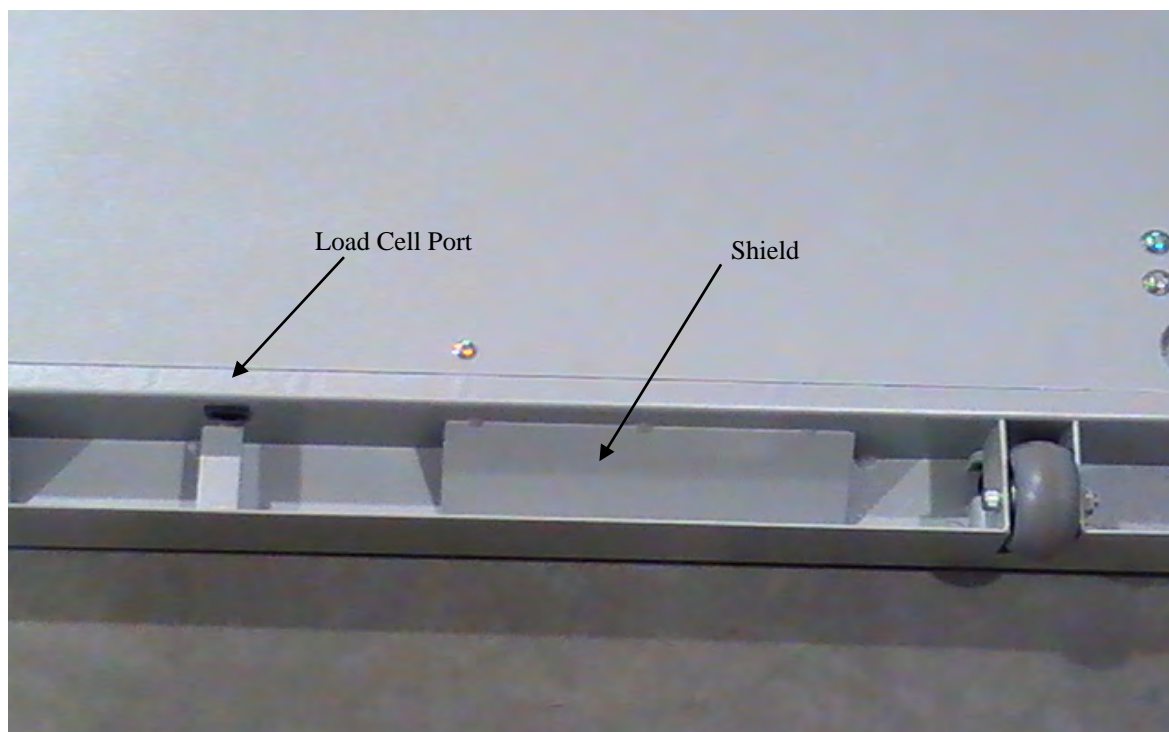

Figure 4
8. Grasp the load cell cable protruding from the bottom of the platform and feed it through the protective metal shield. Plug the cable's load cell connector into the load cell port (see Figure 4).